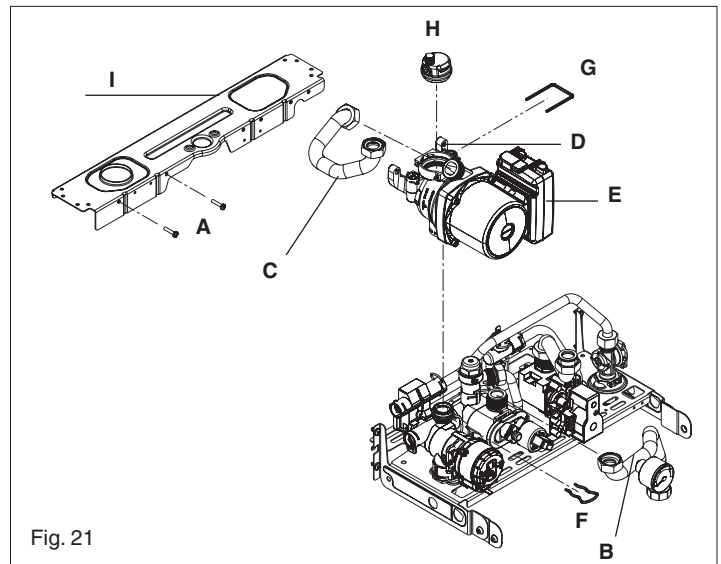
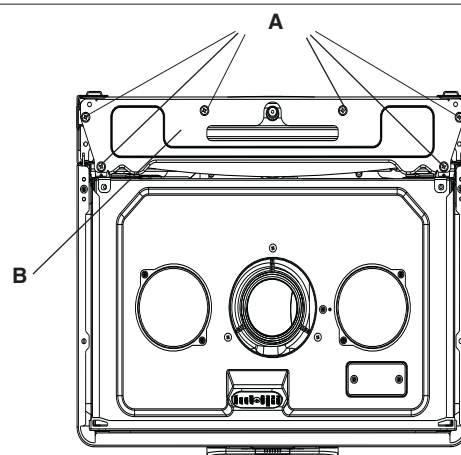

Fig. 21
Fig. 34
6.5 PUMP ASSEMBLY (fig. 21)
6.7 BOTTOM AUTOMATIC AIR RELEASE VALVES (fig. 21)
6.24.1 EXPANSION VESSEL REMOVAL (with sufficient clearance above, fig. 21 & 34)
Carry out component removal procedure as described in 6.4. Disconnect the flue from the appliance. Disconnect the expansion vessel from the flexible expansion pipe. Disconnect the flexible expansion pipe from the vessel. Unscrew the nut that secures the vessel to the frame (I, fig. 21). Locate and remove the 6 screws (A, fig. 34) that secure the vessel top holding plate (B, fig. 34), remove the plate. The expansion vessel can now be removed.